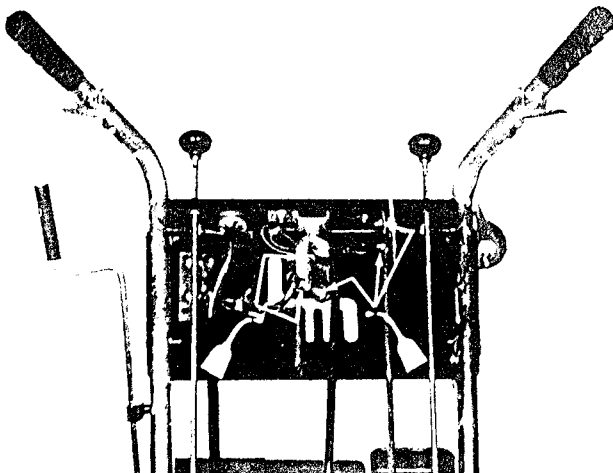

Figure 28
1. Lubricate pivot points in the control linkage with a few drops of SAE 10W-40 oil (Fig. 28). Wipe up any excess oil.